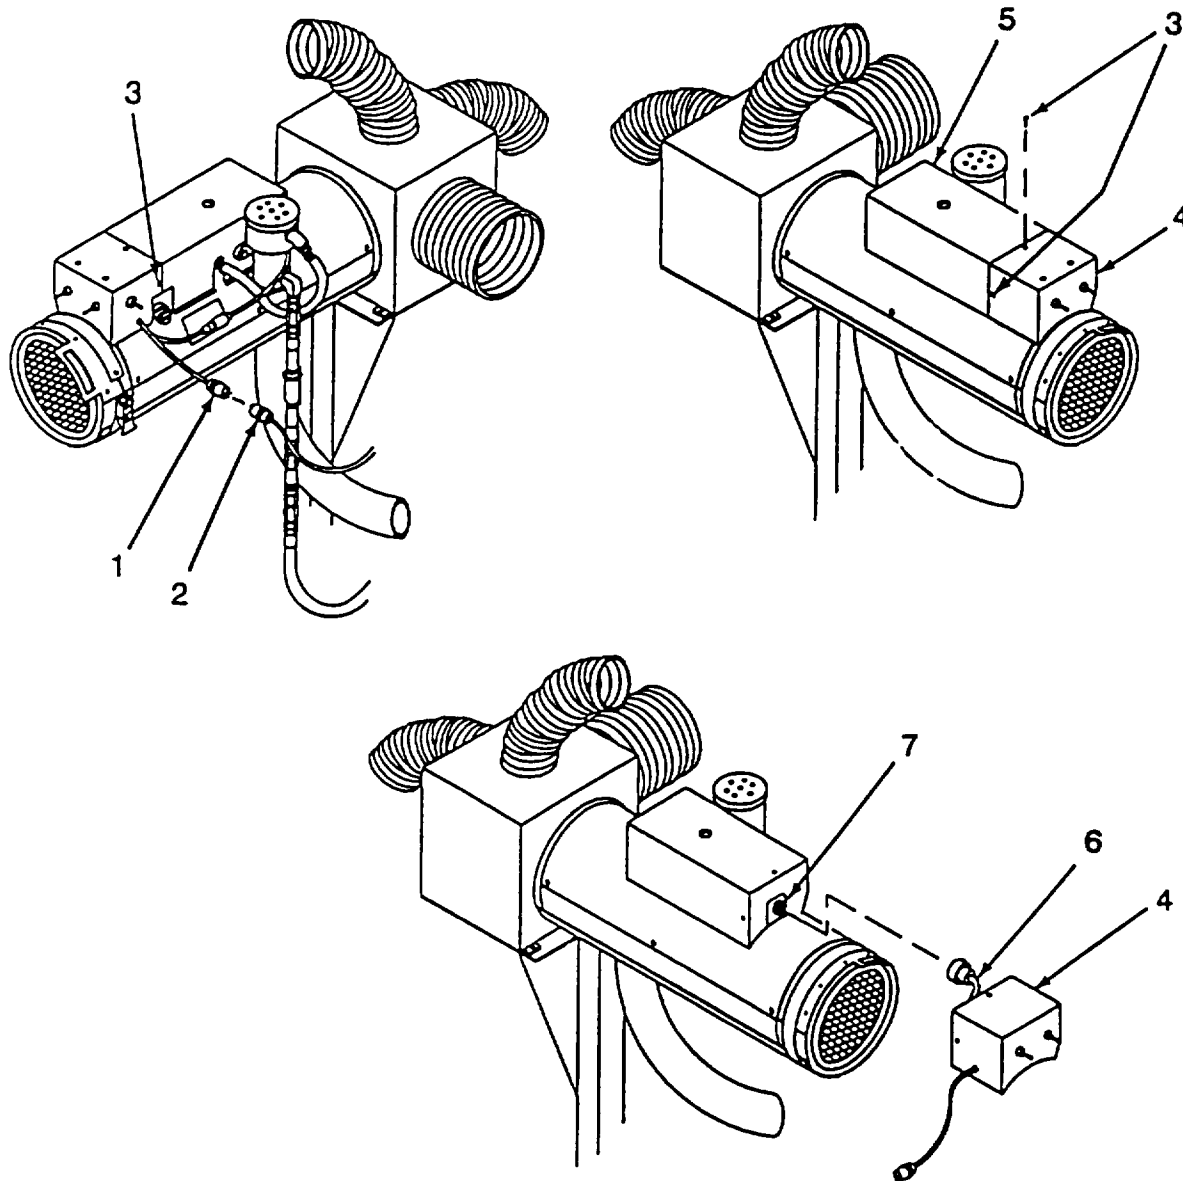

Figure 4-45. Control Box Assembly and Heater
a. Removal. (Refer to Figure 4-45).
- (1) Disconnect negative battery cable (para 4-26)
- (2) Disconnect male plug (1) from female connector (2)
- (3) Remove three self tapping screws (3) from control panel (4) and heater (5).
- (4) Slide control panel (4) forward. Disconnect wire harness (6) from plug (7).